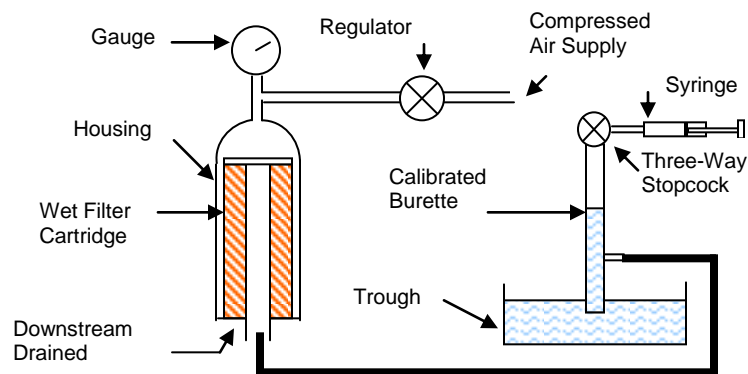

fig 1
3. With the wetted **Chemifil** Cartridge positioned in the housing, connect housing **inlet** to a regulated source of clean compressed air (or other test gas such as nitrogen), and connect housing **outlet** to a suitable piece of flexible tube, extending into a inverted calibrated burette over a water trough partially filled with water (see fig 1).